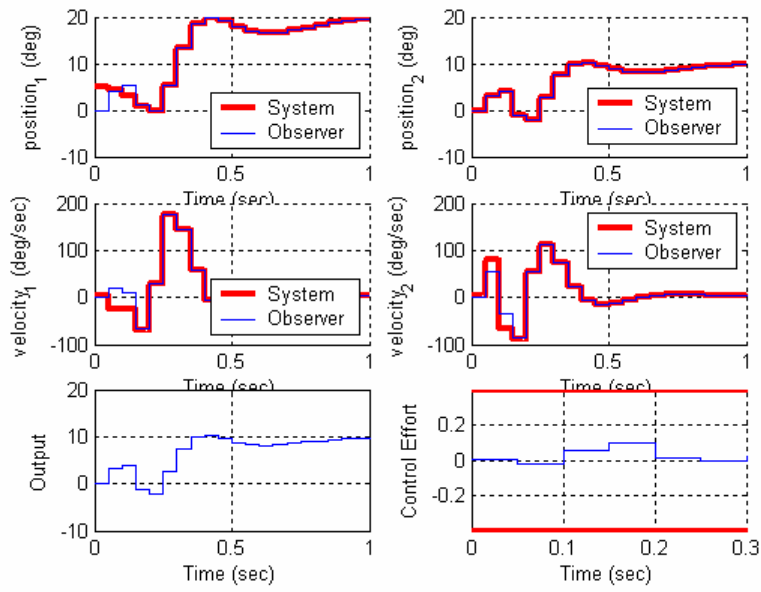

Figure 8. Results for problem 3c.
c) Same conditions as in **b**, but assume the output is the second disk. For a 10 degree step input you should get the graph shown in Figure 8. Turn in your plot.